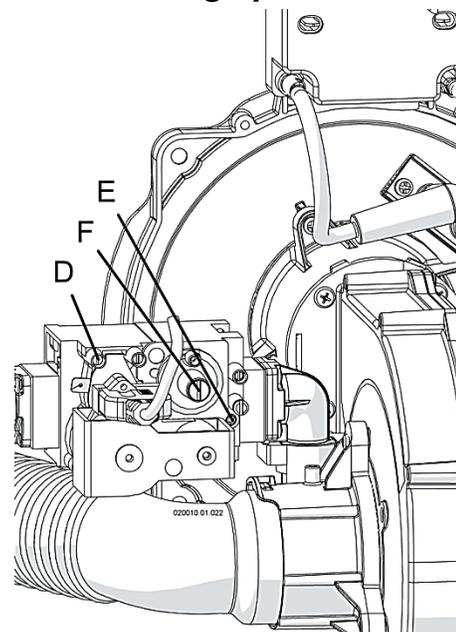

Figure 7-5: Gas Valve Adjustments
18. Turn completely counter-clockwise screw “E” in Figure 7-5.